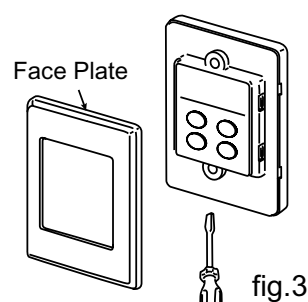

fig.3
4. Remove the face plate from the controller using a flat screwdriver. Take care not to damage the cover. (fig. 3)